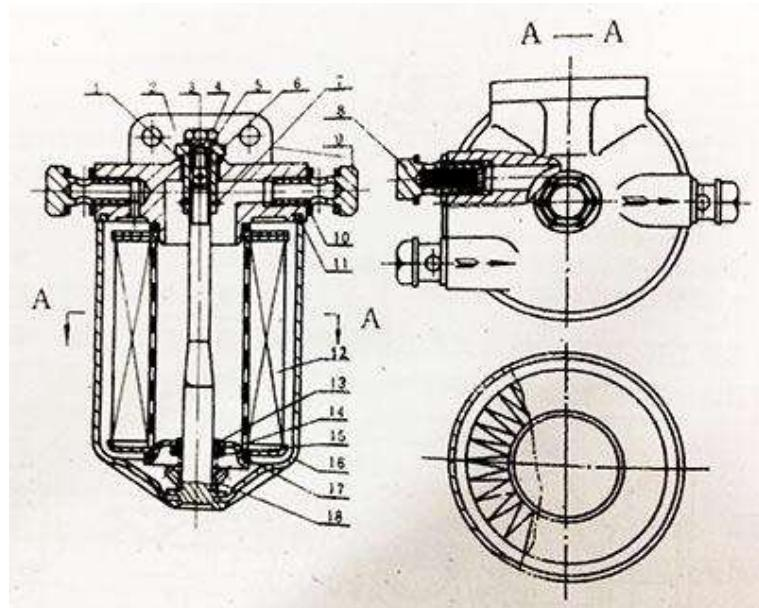
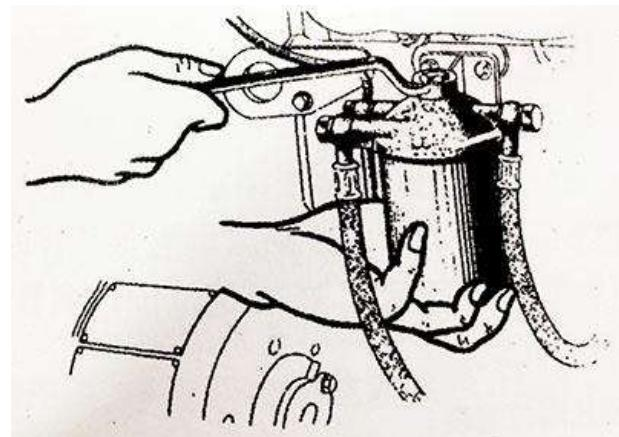
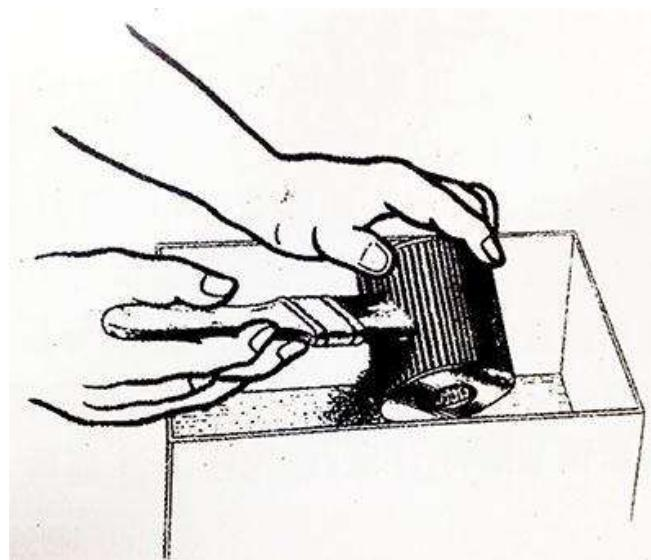

Figure 1: Fuel filter assembly section
Figure 2: Fuel filter overhauling
Figure 3: Cleaning fuel filter element
- Figure 1 is a schematic plan view of an injection system according to the present invention;
- Figure 2 is an enlarged cross-section along line II-II in Figure 1; and
- Figure 3 is a partial enlarged cross-section of a detail of the system in Figure 2.
# As Figure 1 illustrates, 1 indicates as a whole a fuel injection system for an endothermic engine 2 of the type which has a plurality of cylinders distributed in two rows. The engine 2 comprises a base 4 in which there are defined two parallel axes Y and Z; along the
axis Y there is provided a first plurality of cylinders 3a, and along the axis Z there is provided a second plurality of cylinders 3b. Each cylinder 3a and 3b (Figure 2) accommodates a respective piston 5, and has in its head a respective intake valve 6.
# With reference to Figures 1 and 2, the system 1 comprises:
# With reference to Figure 2, the injectors 11 have a head 16, in which there is recessed the fuel inlet mouth, which is accommodated in a respective seat 17 recessed in the fuel manifold 7, and a nozzle 18 (Figure 3) which is accommodated in a seat 21 recessed along the respective fuel supply pipe 8. The fuel manifold 7 is mounted to the side of the base 4, and in particular in the vicinity of the axis Y, such that the pipes 8 which supply the cylinders 3a have a length which is shorter than that of the pipes 8 which supply the cylinders 3b. The injectors 11 have a respective longitudinal axis A which converges towards an area of the base 4 in a median position between the axes Y and Z. The axes A of all the injectors 11 are defined on a single plane, i.e. all the injectors 11 have the same angle relative to the longitudinal axis X of the fuel manifold 7. The air supply pipes 15 lead to a respective fuel supply pipe 8, inside which the air and fuel are mixed in order to obtain the air-fuel mixture which the cylinder 3a, 3b will take in by means of the valve 6 during the intake stage.
# With reference to Figure 3, the nozzle 18 of the injector 11 has a plate 22 in which there is provided an injection hole 23 defined along an axis B which converges on the axis A according to an angle  $\alpha$ ; the
# With reference to Figure 2, the injectors 11 which supply the cylinders 3a are oriented differently, and in particular are rotated around the axis A by 180° relative to the injectors 11 which supply the cylinders 3b. The orientation of the injectors 11 which supply the cylinders 3a, and the angle  $\alpha$  of the fuel jet relative to the axis A, cause the fuel jet to strike fully the valve 6 of the cylinders 3a. Whereas the orientation of the injectors 11 which supply the cylinders 3b and the angle  $\alpha$  of the fuel jet relative to the axis A, cause the fuel jet to strike fully the valve 6 of the cylinders 3b, this latter solution being illustrated in broken lines in Figure 3.
The fuel filter of diesel engine is mainly composed of three parts: filter element, the shell and filter base (As shown in Figure 1). All models are universal except for the overflow valve 8 that has two structures. Choosing C0810A or C0810B filter should be on the basis of different models. For the 12 cylinder V type diesel genset, it should be installed in parallel with each one of C0810A and C0810B.
The fuel filter of the diesel engine is fixed on the engine body and bracket with two M8-6H screws. If users find that the fuel supply is not smooth, it is possible that the filter element is plused. At the moment, you should dump the fuel oil. You can directly loosen the pull rod nut of diesel generator set, remove the shell, and take out the filter cartridge (As shown in Figure 2). After the filter element is dipped into gasoline or diesel oil, you can gently wash the dirt off with brush (As shown in Figure 3). If the filter cartridge is broken or hard to clean, it must be renewed. Then install it as shown in Figure 1 and inject the clean fuel.